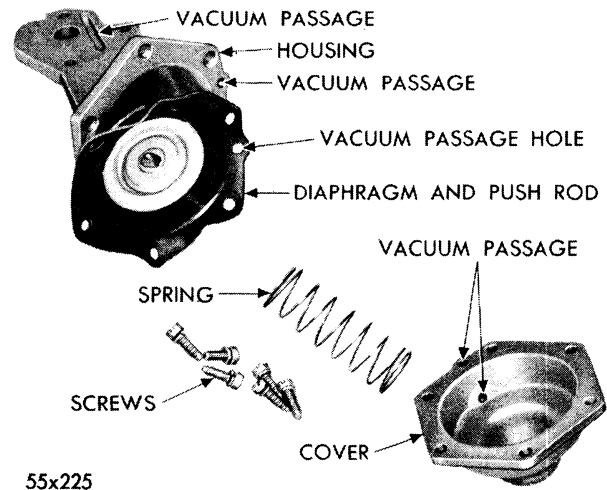
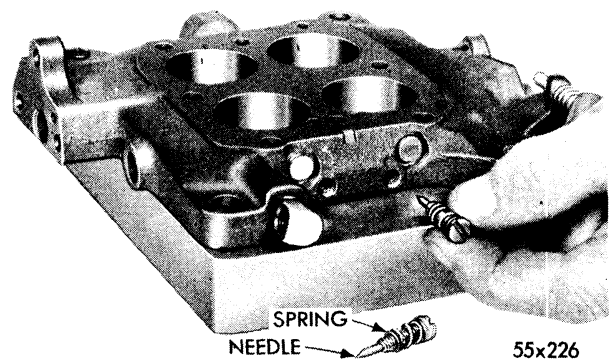
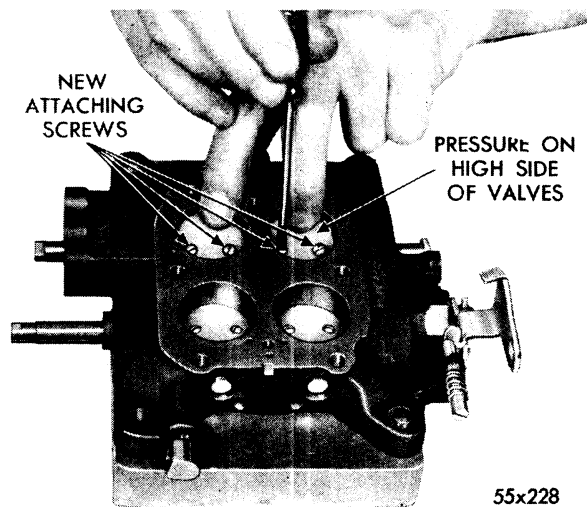

Fig. 11—Vacuum Diaphragm Assembly (Disassembled View)
Fig. 12—Removing or Installing Idle Mixture Adjusting Needles
Fig. 15—Installing Secondary Throttle Valves
- (1) Remove the screws that attach diaphragm housing cover to the housing. Separate cover and housing and lift out diaphragm, plunger, and spring, as shown in Figure 11.
- (2) Check the diaphragm for wear, rupture, or tearing. If necessary, install new diaphragm and plunger assembly.
- (3) Remove the two idle mixture adjusting needles and springs from the throttle body, as shown in Figure 12.
- (4) The carburetor now has been disassembled into four units; namely, the air horn, main body, throttle body, and automatic choke. The component parts have been disassembled as far as necessary for cleaning and inspection.
- (7) Slide the secondary valves into position, then install new screws; do not tighten. Hold the valves in place with the fingers, as shown in Figure 15. (Fingers pressing on the high side of valves.)
- (8) Tap the valves lightly with a screwdriver to seat in the bores. Holding the valves in this position, tighten screws securely, and stake by squeezing with pliers.
- (9) Install the two idle mixture adjusting needles and springs in the throttle body. (Refer to Fig. 12). The tapered portion must be straight and smooth. If the tapered portion is grooved or ridged, a new idle mixture adjusting screw should be installed to insure having correct idle mixture control. **DO NOT USE A SCREWDRIVER.** The adjustment should be made with the fingers. Turn the needles lightly against their seats, then back off one full turn for approximate adjustment.
- (10) Slide the fast idle cam retaining screw through the fast idle cam (the threaded shank of screw on spring side).
- (11) Slide the fast idle cam trip lever over shoulder on screw, guiding the tang between the fast idle spring and cam.
- (12) Slide the lockout arm over screw then insert pivot screw in position in throttle body